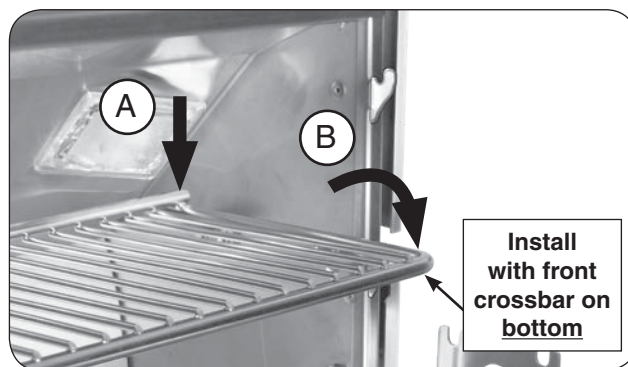

Fig. 22-2 Place warming rack for use
2. With the warming rack oriented as shown, carefully rest the rear of the rack onto the rear support plates (see Fig. 22-2, A), then lower the warming rack arms onto the lower hooks for use (see Fig. 22-2, B).